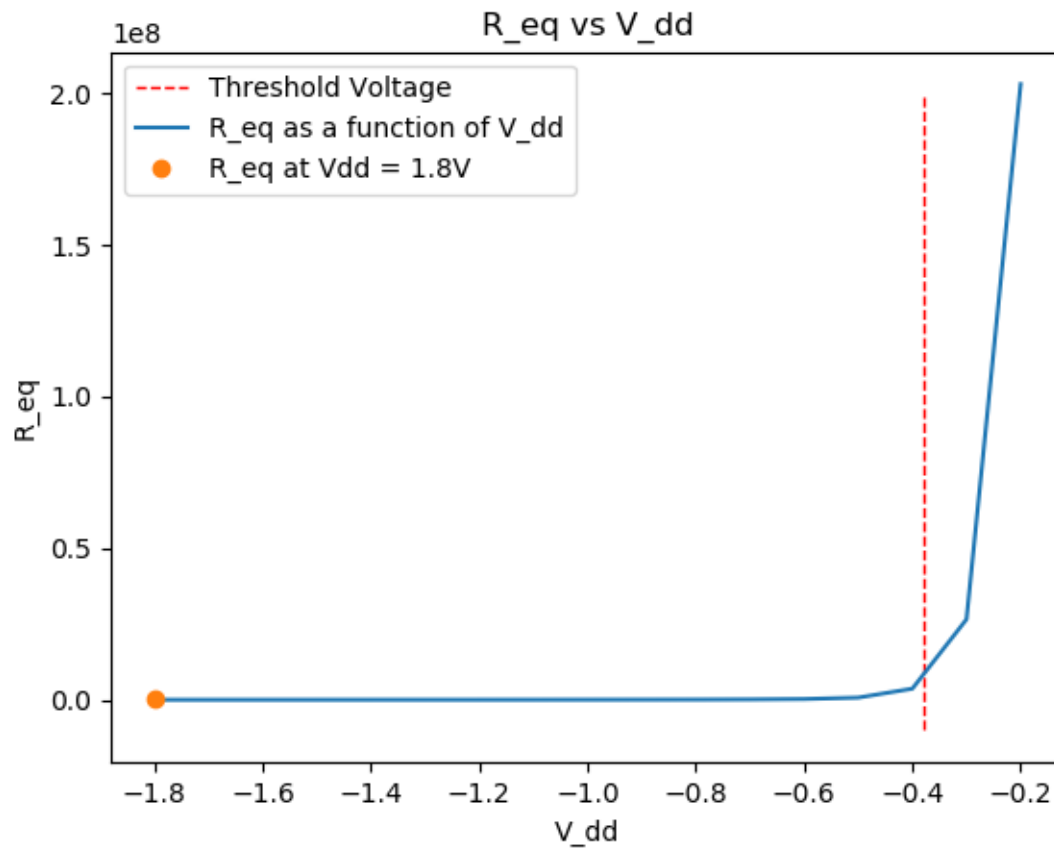

Figure 2: pmos
- Please refer Figure 2 for the plot of R_{eq} vs V_{DD} for a PMOS device.